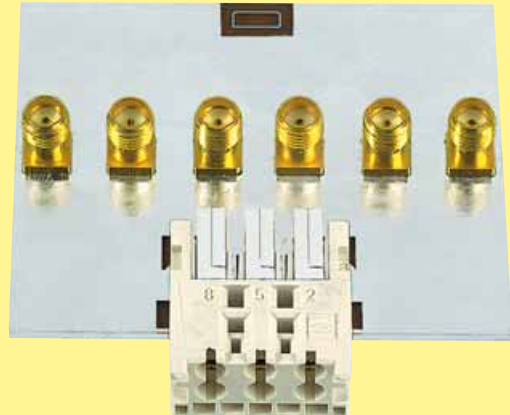

Fig. 6: Test boards with implemented Mini Coax connector
2) Data of Mini Coax connector pair including the whole test board environment (see Fig. 6)
Fig. 6 shows the test boards with the integrated Mini Coax connector. The test boards are executed in stripline technology with a characteristic impedance of  $50\ \Omega$ . To connect the test boards with the cables of the measurement instrument, SMA connectors are used.